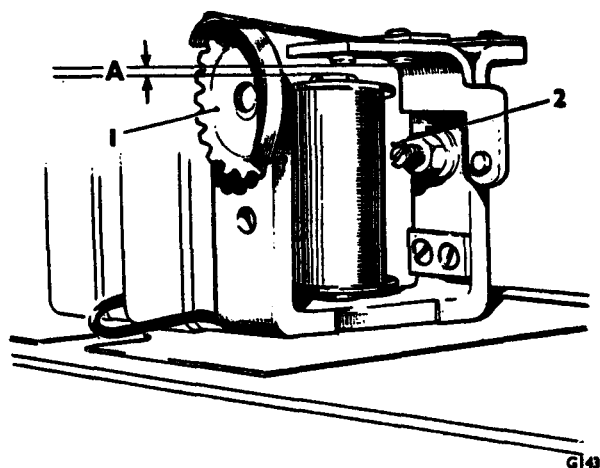

FIG. M47 VOLTAGE REGULATOR & CURRENT REGULATOR SETTINGS
3. Insert a 1,37 mm. (0.054 in.) feeler gauge between the armature and core face (*see Fig. M47*). The gauge should be inserted as far back as the two rivet heads on the underside of the armature.